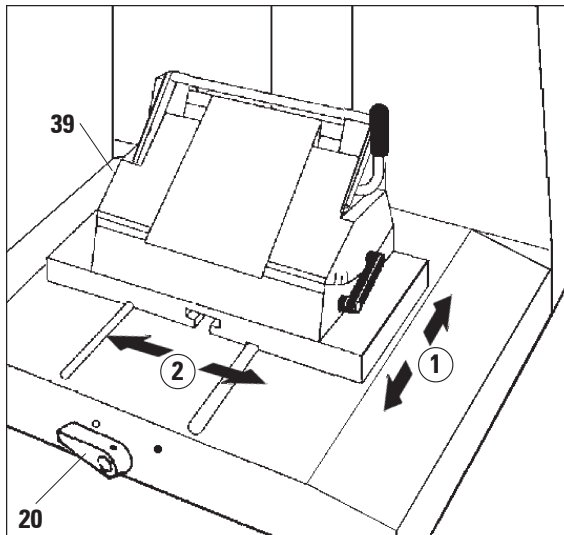

Fig. 26
- Rotate the clamping lever (20, Fig. 26) at the front of the microtome base plate counter-clockwise to release the clamping mechanism.
- Secure the clamping mechanism by turning the lever (20) clockwise.